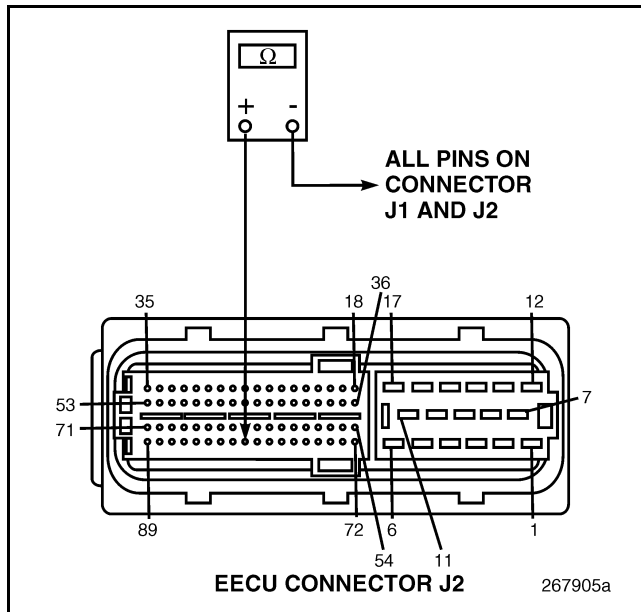

Figure 66
4. Check for continuity between EECU harness connector J2 pin 81 and all other pins on EECU connectors J1 and J2 (see Figure 66).